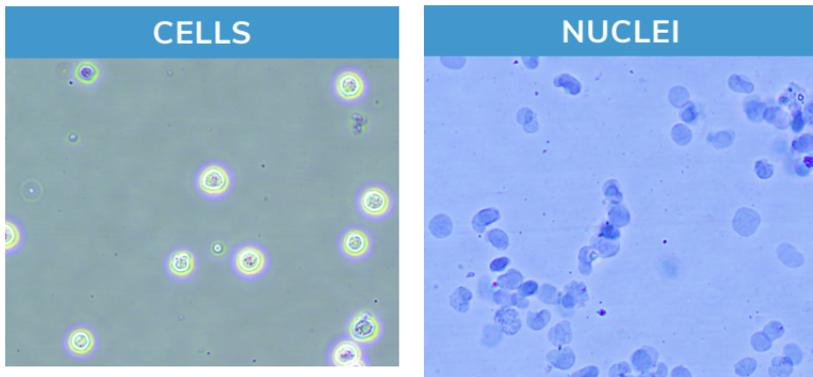

FIGURE 18
3. Count cells and confirm starting cell integrity by Trypan Blue staining (see Figure 18 & Appendix 1.2). Harvest 500,000 cells per reaction plus 10-20% excess to account for sample loss.
- Take a 10 μ L aliquot to examine nuclear integrity by Trypan Blue staining. See **Appendix 1.2** for staining instructions and Figure 18 for expected results.